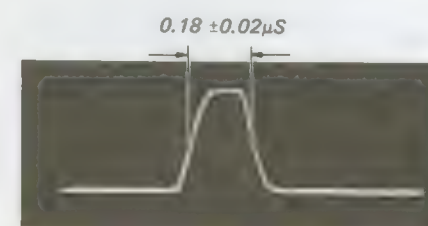

Fig. 5-107.
5. Adjust RV 2 for a pulse width of 0.18 μ S. (See Fig. 5-107.)